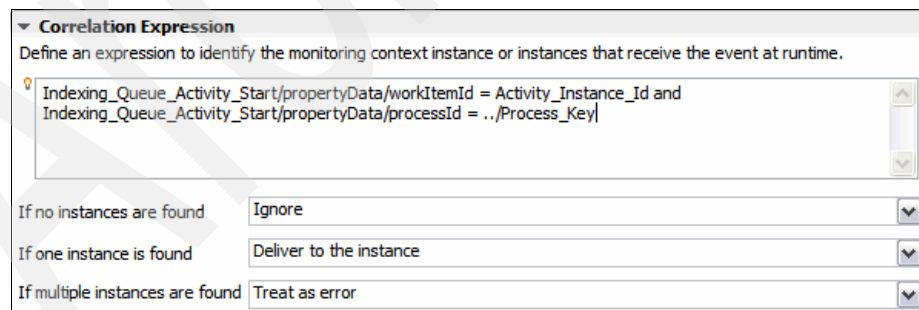

Figure 7-89 Correlation Expression
5. Under Correlation Expression (Figure 7-89):